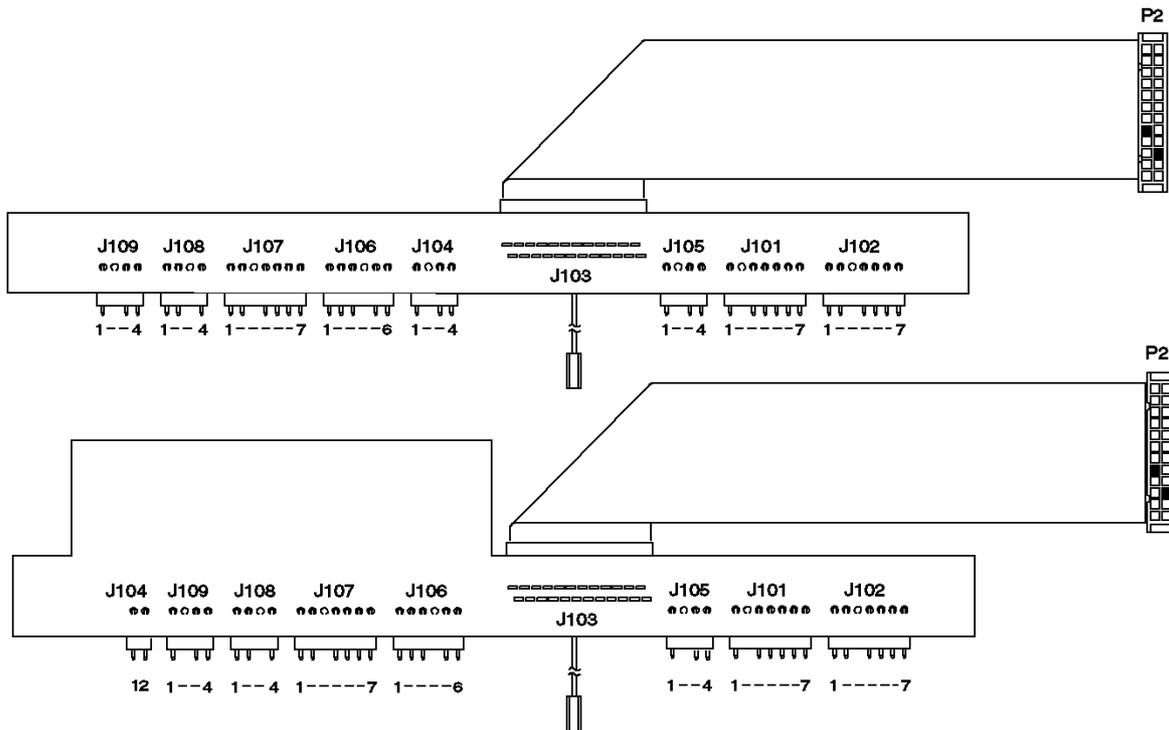

Figure 6-24. Extension Card Connections
- Unplug the following printer card connectors from the extension card: J101, J102, J106, J107, J108, and J109. See Figure 6-24.